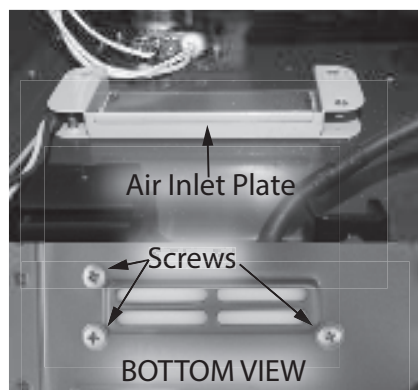

Figure 230 - Air inlet plate location
18 Locate the three (3) screws securing the air inlet plate to the water heater cabinet. Use a Phillips screwdriver to remove the screws. Place screws aside in a safe place for reinstallation. See Figure 230. Note the orientation of the plate when removed and returning to that orientation when reinstalling it.